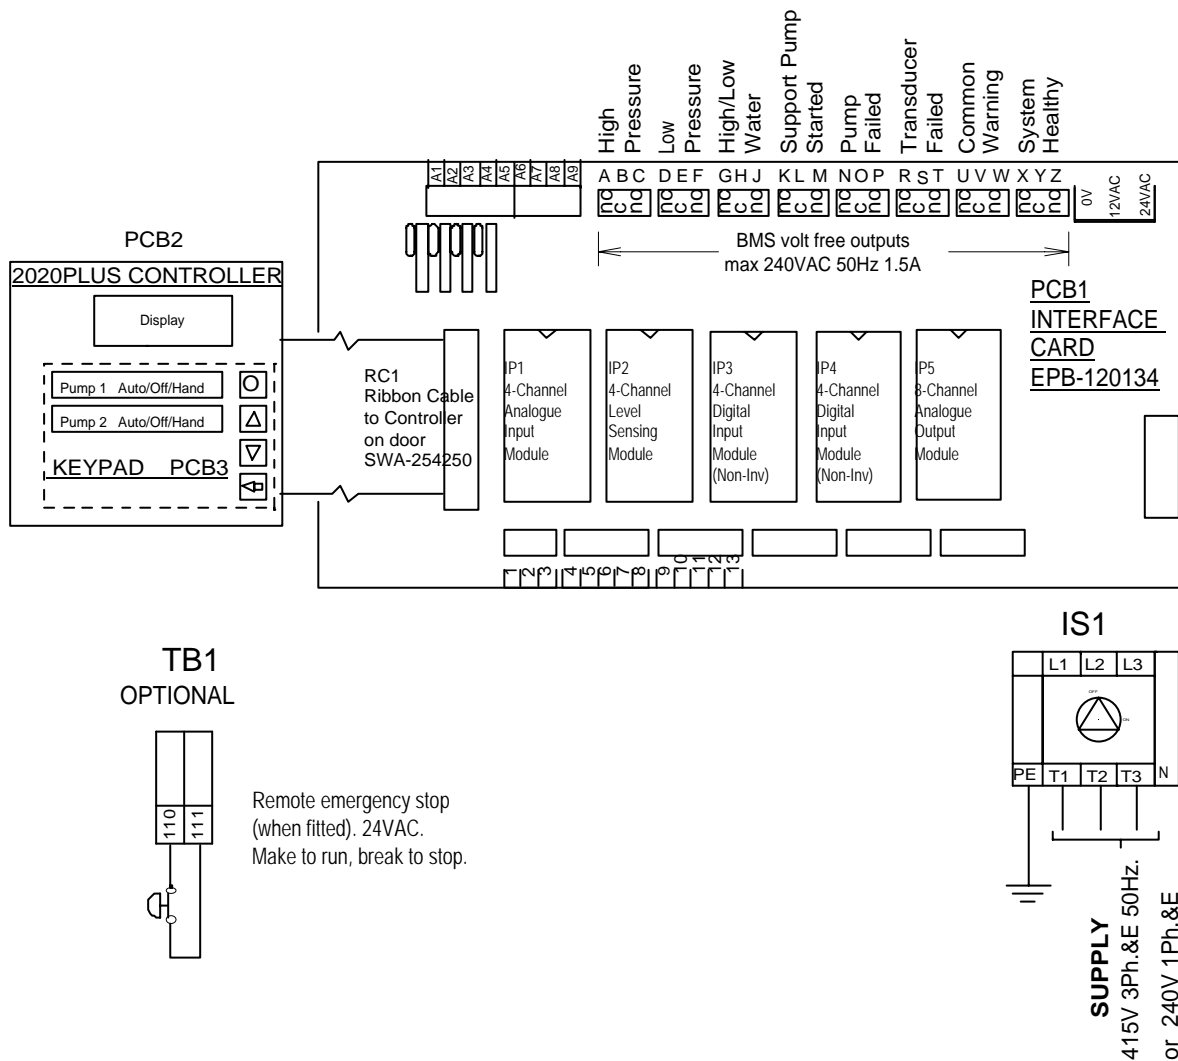

Fig. 1.3 Typical example of electrical connections
- 1.3.6.3 Connect incoming electrical mains supply to identified terminals on isolator IS1 in panel (see fig. 1.3). Ensure voltages and frequency indicated on the motor nameplates and wiring diagrams correspond with supply mains data and that the supply fuse type & rating is correct for the total current rating of the equipment. Note: some units may require Neutral supply for special applications. Refer to wiring diagram supplied with the unit or AquaTech-Pressmain.
- 1.3.6.4 Where optional remote fault signal is required connect volt free terminals in control panel to remote panel. See fig 1.3 and wiring diagram provided.